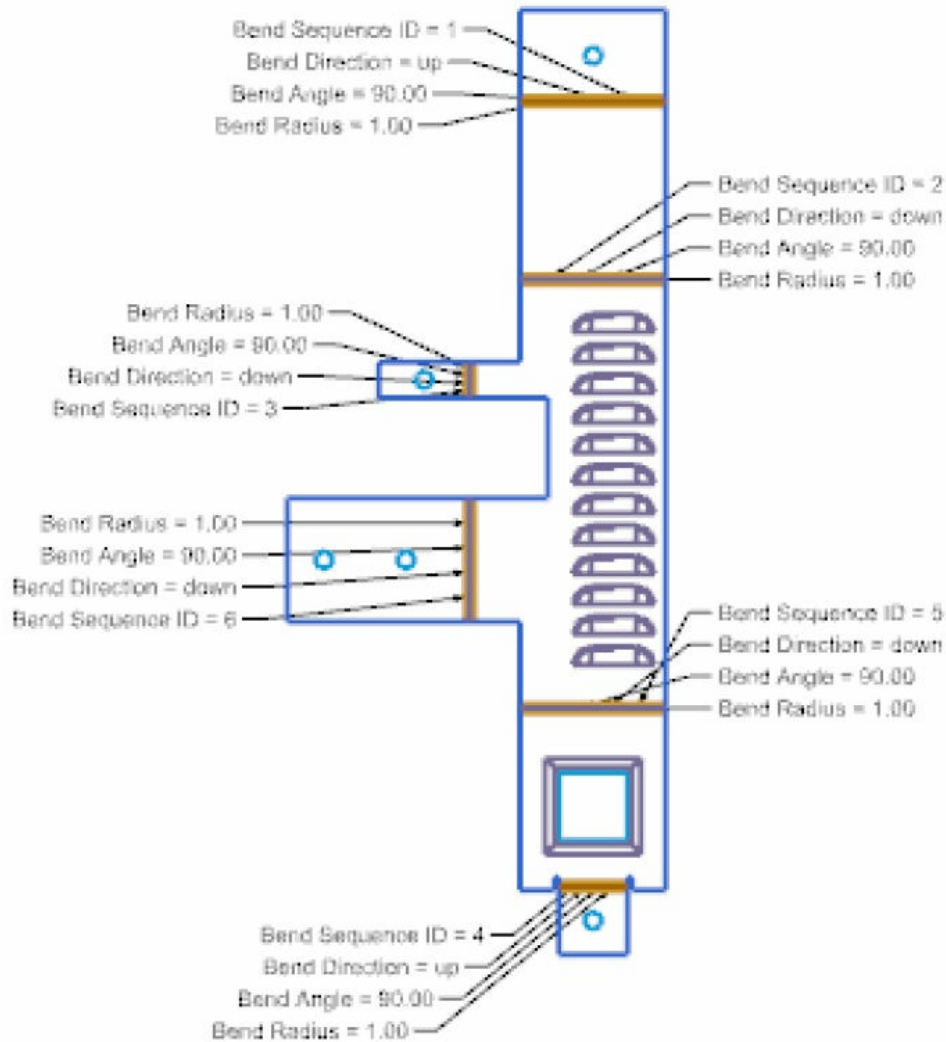

Figure 14-123 Flat pattern of the sheet metal part
5. Select **FLAT-PATTERN#1** from the list box available in the **Replace View with** dialog box and then choose the **OK** button; the flat pattern is displayed, as shown in Figure 14-123.